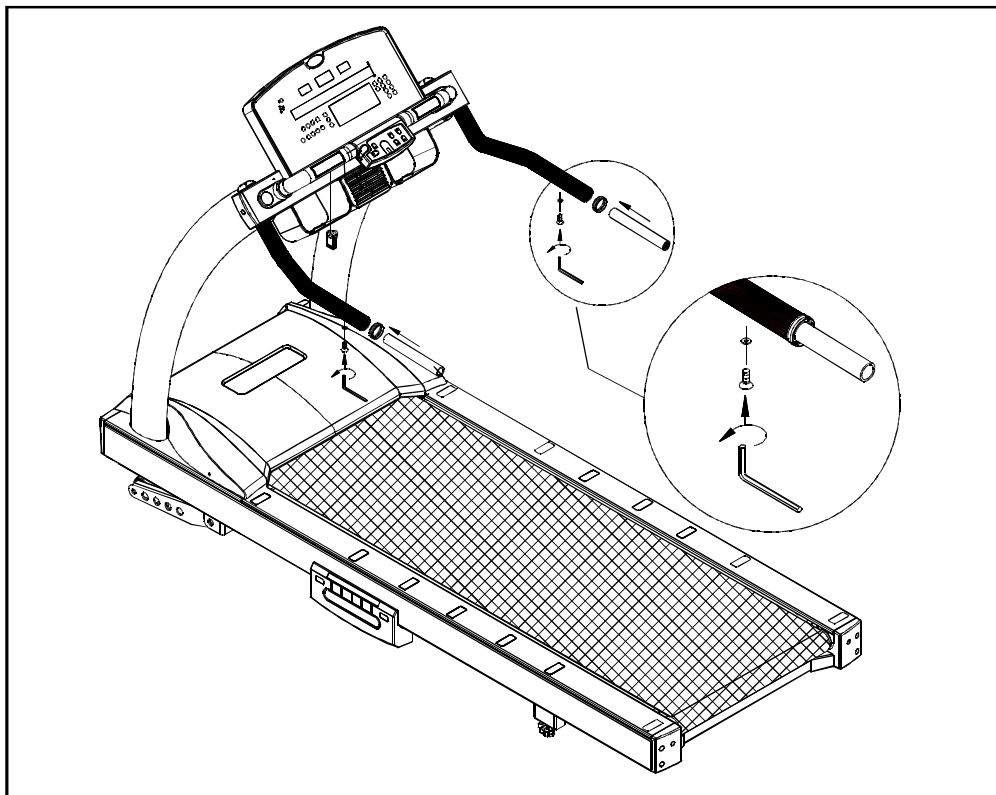

Fig.15
- (2) Insert short transition tubing into left and right short handrails, align hole for fastener. Place handrail transition ring and insert fasteners on underside of handrail. (see Fig.15)